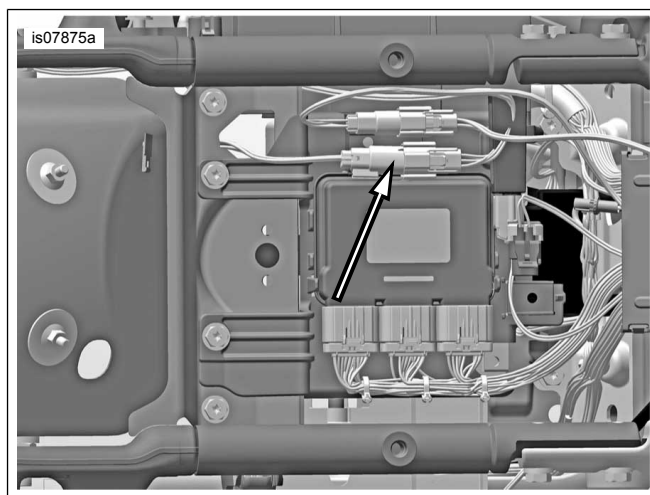

Figure 4. Separate Rear Lighting Connector [7]
18. **2010-2013 models:** Plug the Curved License Plate Frame harness connector into the capped four-way Deutsch P&A Accessory connector [4]. This connector is located under the seat, in front of the Electronic Control Module (ECM). If the P&A Accessory connector is already in use, a dual accessory harness (Part No. 70264-94) is available from a Harley-Davidson dealer. **2014-later models:** Get the license plate lamp Y-harness (11) from the kit.
- a. See Figure 4. Separate the black six-way Molex rear lighting connector [7] on top of the Electronic Control Module (ECM) caddy.